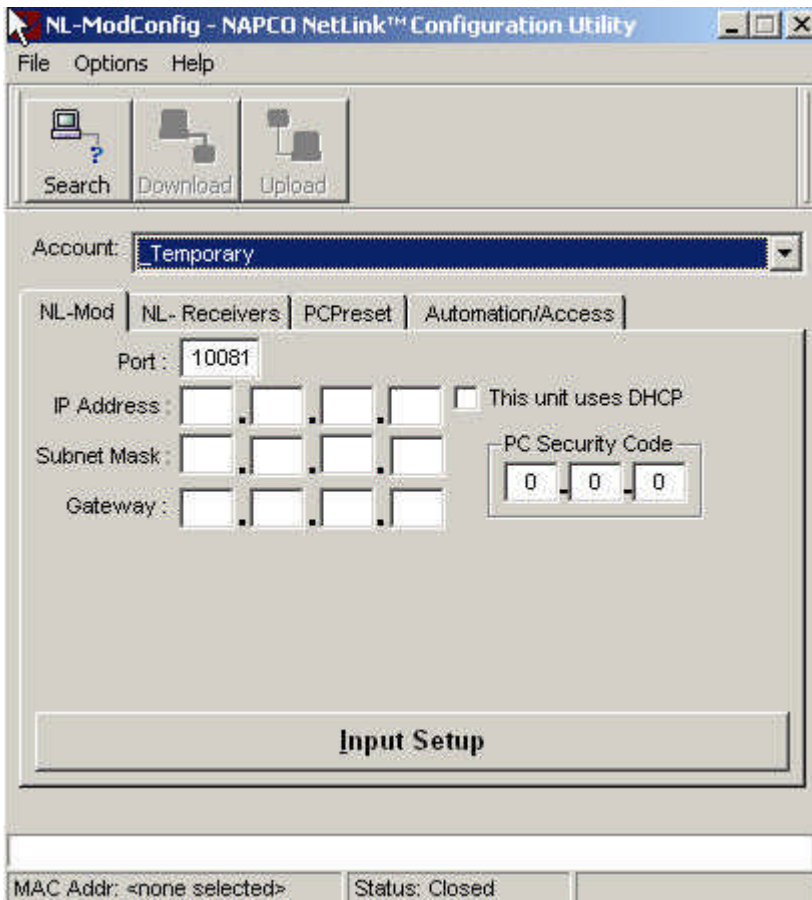

Figure A4.
5) Using the MAC Address as reference, locate your NL-Mod device on the list. **Double-Click** on you NL-Mod. The temporary account will display. The default PC Security Code is 0.0.0, which represents No Code. Refer to figure A4.